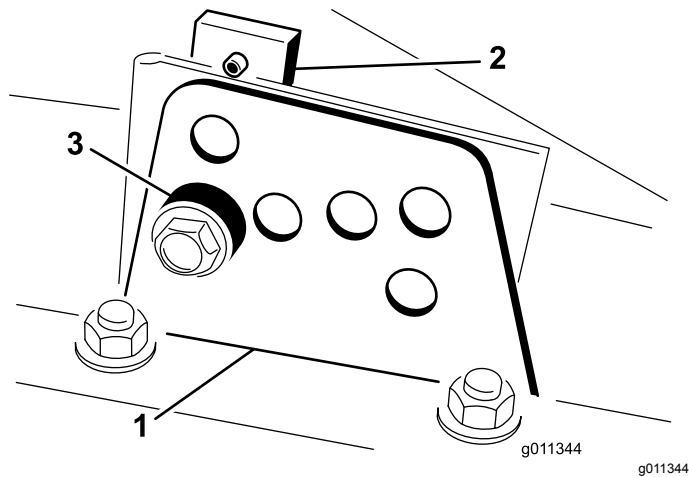

Figure 4
2. Loosen the bolt securing each height-of-cut bracket to the height-of-cut plate (front and each side) (Figure 4).
4. While supporting the chamber, remove the spacer (Figure 4).